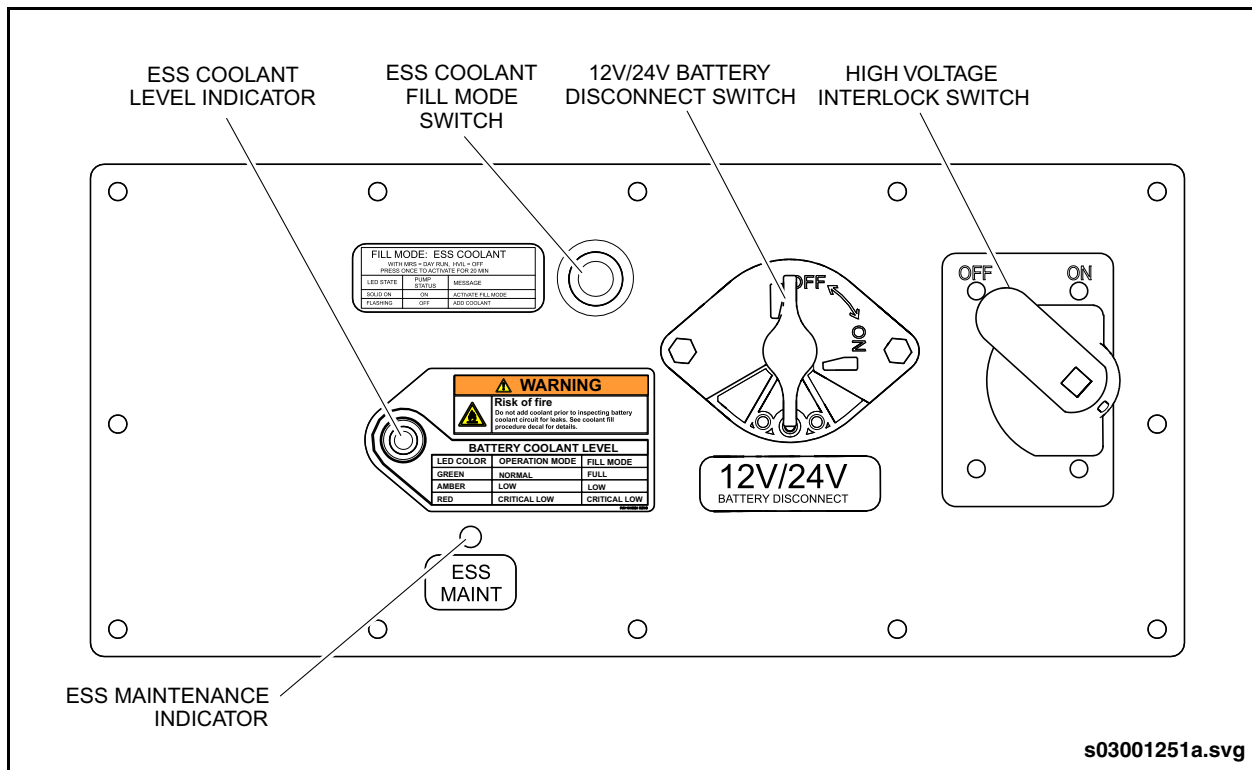

Fig. 4: ESS Coolant Level Indicator & Fill Mode Switch
4. Check the High Voltage Interlock switch is OFF. If ON, set the Master Run switch to OFF, then High Voltage Interlock switch to OFF. See “Fig. 4: ESS Coolant Level Indicator & Fill Mode Switch” on page 7.